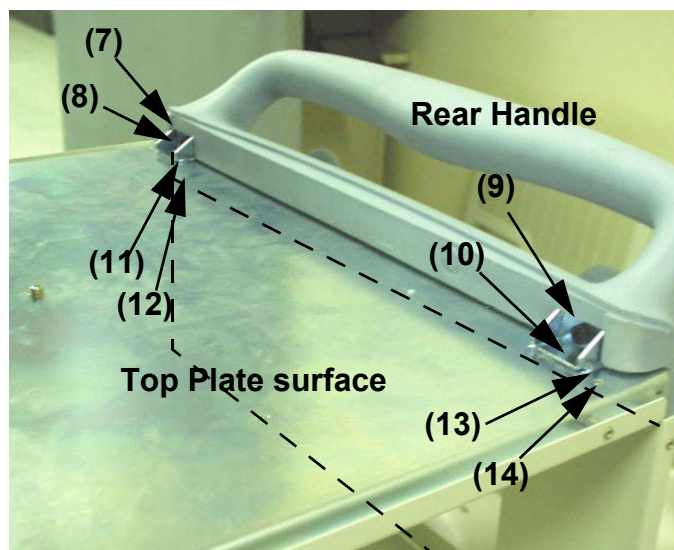

Figure 8-100 Removing the Rear Handle
- 7.) Unscrew four (4) screws (7-10) above top plate surface on the Rear Handle.
8.) Unscrew four (4) screws (11-14) below top plate surface on the Rear Handle. Refer to Figure 8-100 on page 8-53 .